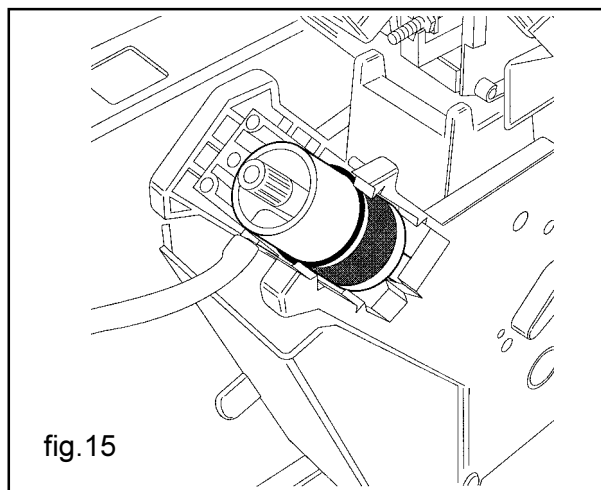

fig. 15
- The rotation unit gear motor starts-up, brings it into the dispensing position and simultaneously compresses the ground coffee (fig. 15).